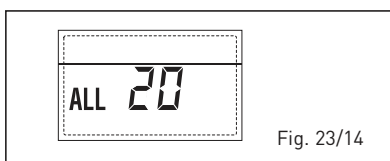

Fig. 23/14
– **ANOMALIE SONDE REFOULEMENT PREMIERE ZONE MIXTE “ALL 21”** (fig. 23/15)